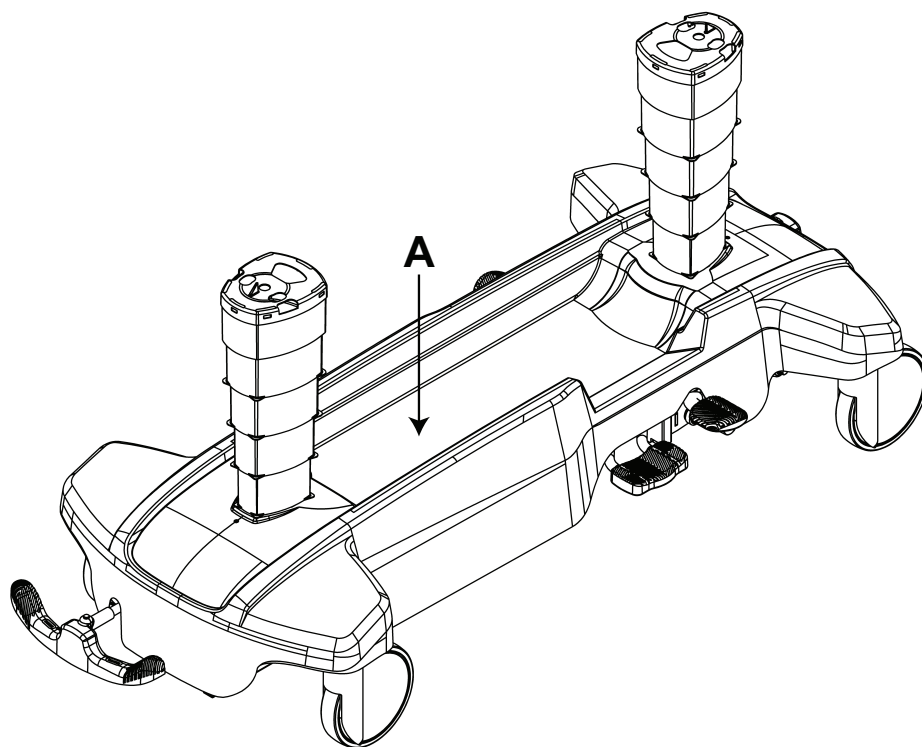

Figure 11 – Base hood storage
You can store patient belongings in the base hood (A) (Figure 11).